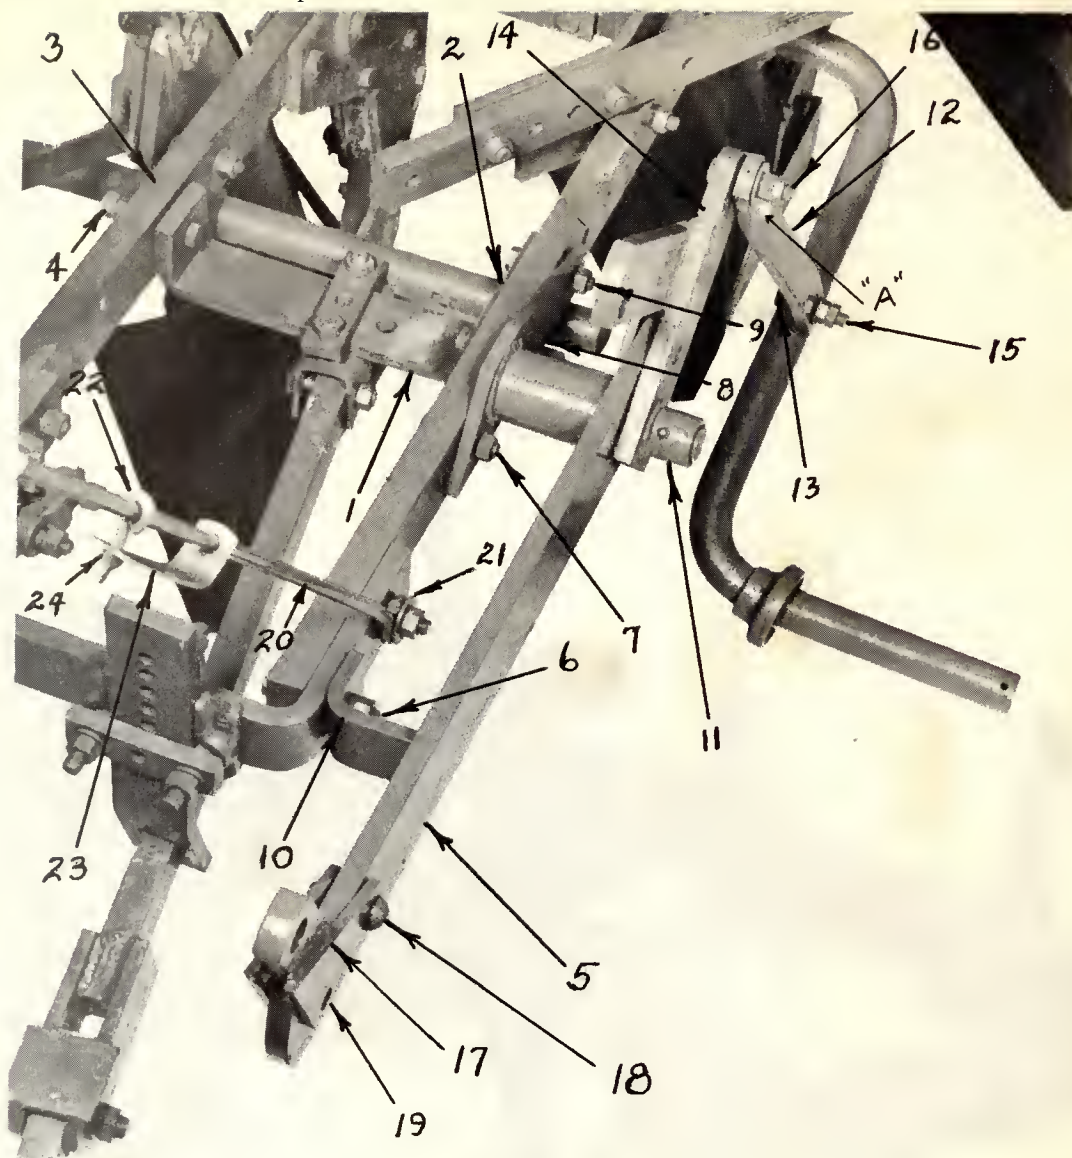

FIGURE 16
The eye of the hose rod (20) Figure 16 and washer (21) are attached on the rear bolt through 2nd beam and end of front brace.